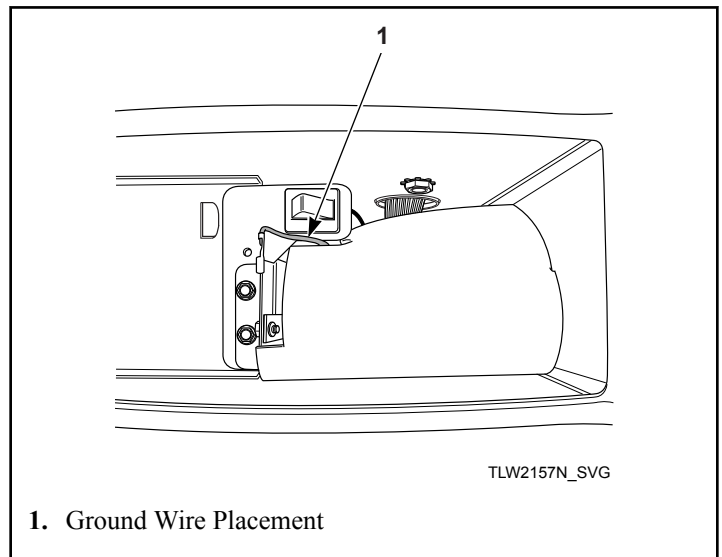

Figure 32
7. Before installing coin slide and extension, make sure ground wire is tucked under control shield to provide clearance for coin slide. Refer to *Figure 32* .